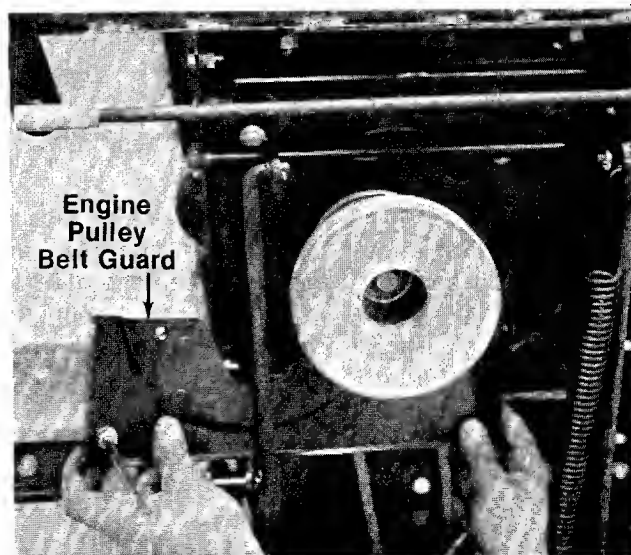

FIGURE 29.
3. Remove the engine pulley belt guard by slipping it back and to the right. See figure 29.